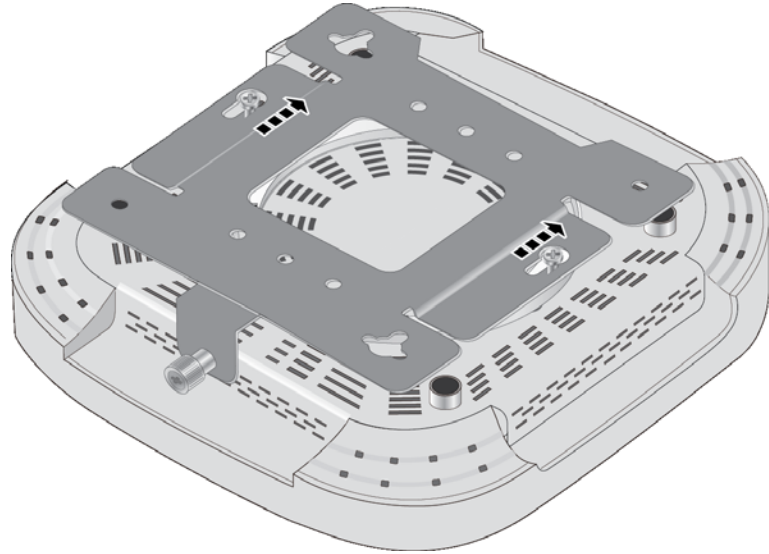

Figure 15. Installing the TQ Bracket on the Wireless Access Point
3. Install the TQ bracket on the wireless access point by sliding the keyholes under the screws. Refer to Figure 15 on page 25.